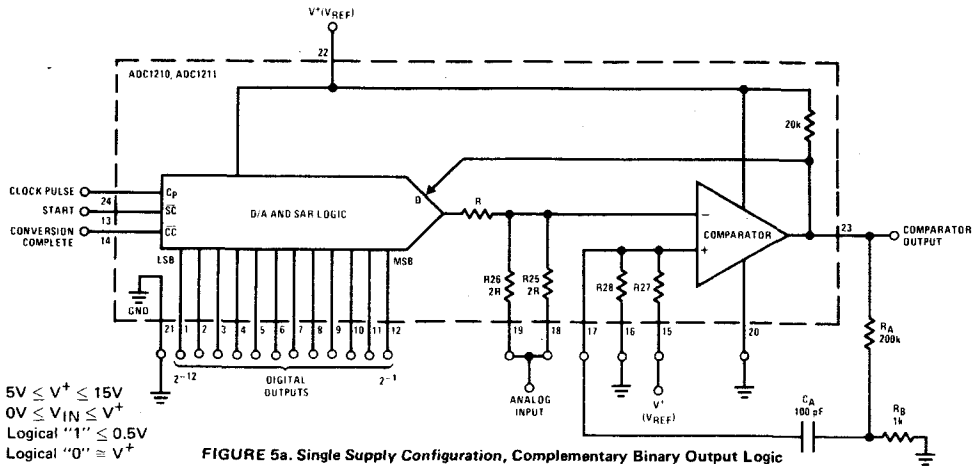

FIGURE 5a. Single Supply Configuration, Complementary Binary Output Logic
**Note 3:** Unless otherwise noted, this specification applies over the temperature range -25°C to +85°C. Provision is made to adjust zero scale error to 0V and full-scale to 10.2375V during testing. Standard linearity test circuit is shown in Figure 5a.